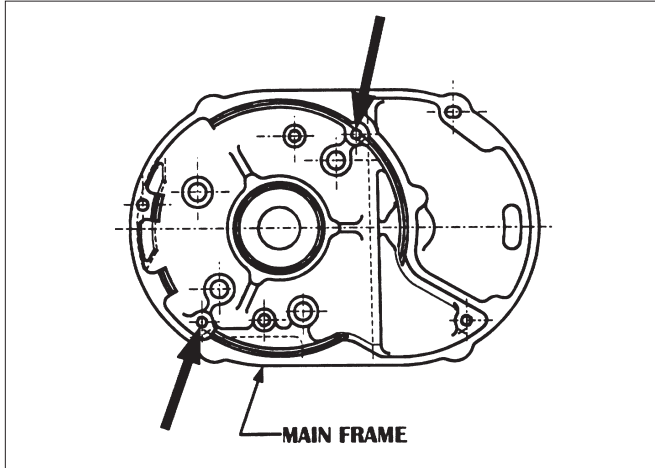
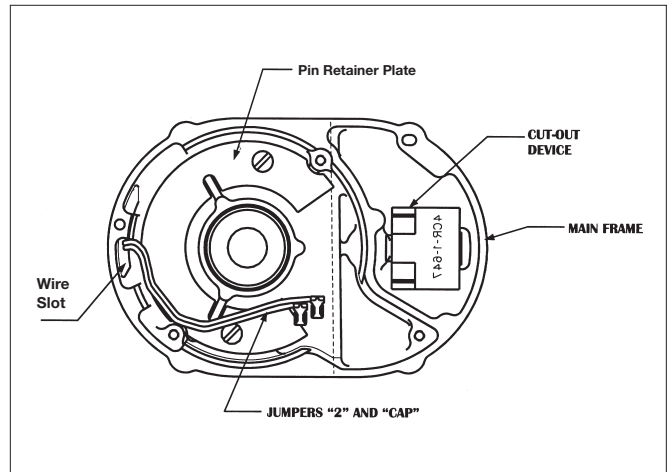

Figure 20 - Main Frame
Figure 21 - Stator Installation
9. To install the stator, (Refer to Figure 20) and make sure that the pin retainer plate has been assembled to the main frame. On single phase units slide jumpers "2" and "CAP" through the wire slot in the main frame. Route these wires around the rotor bearing boss in the main frame as shown in Figure 21. Attach the brown and blue stator leads and "2" jumper to cut-out device (refer to wiring diagram). Slide the cut-out device into the cavity as shown. Push the cut-out device down until it sets on the main frame. Place the capacitor on top of the cut-out device and attach "CAP" jumper and the yellow stator lead to it. Re-route jumpers "2" and "CAP", if necessary to make sure they clear the rotor bearing boss as shown in Figure 21. On all units slide stator leads through wire slot. Align the slots in the stator shell with the threaded holes in the main frame, as shown in Figure 20. With the leads down, slide the stator into the main frame. Slide the rotor, large bearing first, into stator. Place the rotor thrust washer on top of the exposed rotor bearing and then assemble the motor end cover to the main frame. Using wiring diagram, complete the wiring at the brake end of the unit.